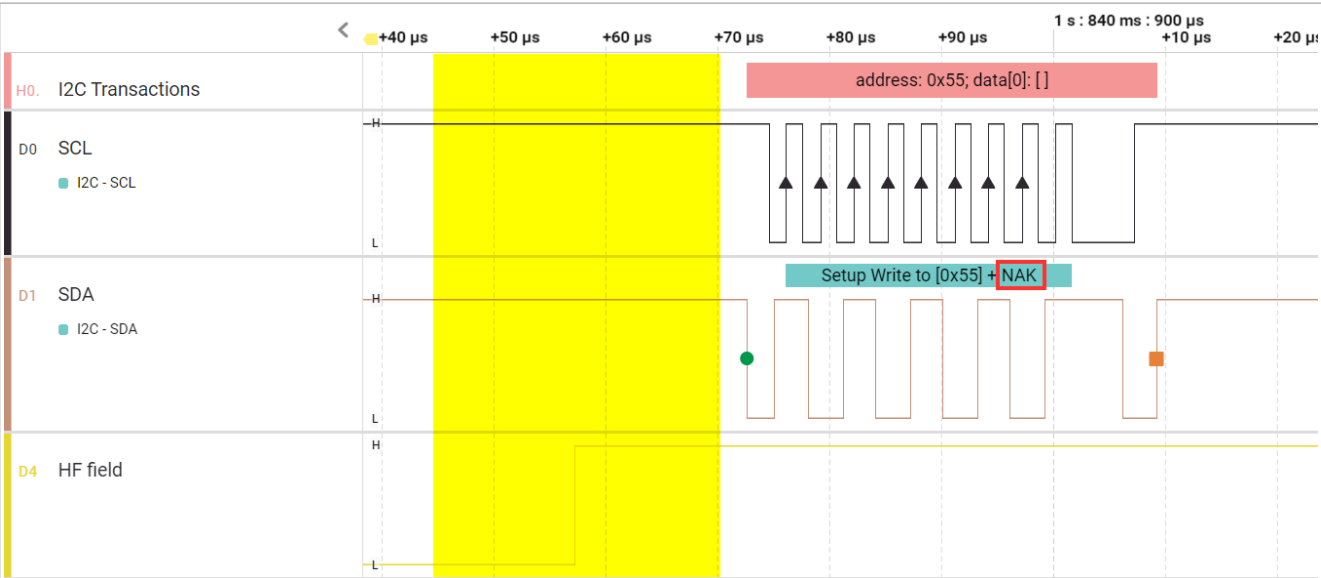

Figure 8. NTAG does not respond to its I²C address - logic trace
- NTAG does not respond on its I²C address Figure 8